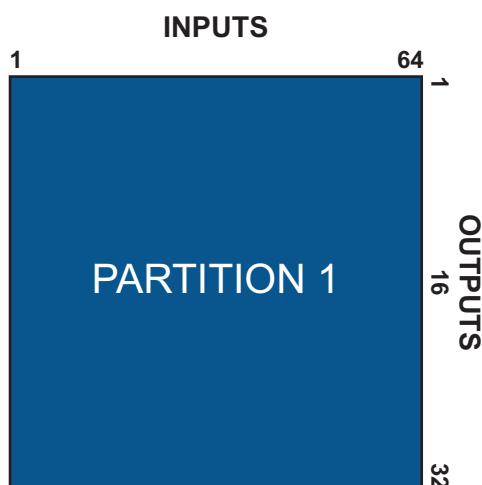
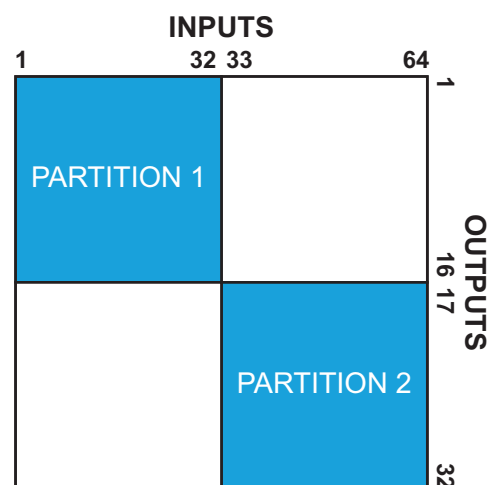

Figure 55 One Audio Mixer — 64x32
Figure 56 Two Audio Mixers — Each 32x16
**Figure 55** is an example of one audio mixer (one license) with 64 stereo inputs (128 channels) and 32 stereo outputs (64 channels). **Figure 56** is an example of partitioning to obtain two smaller independent ULTRIMIX-MXR I/O blocks. Each partition is stereo 32x16.